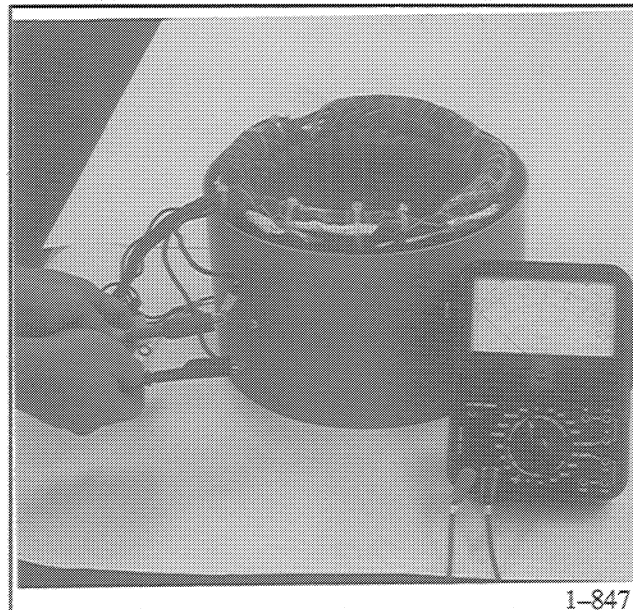

Figure 7-7. Stator Resistance Check
1. To check stator continuity, set ohmmeter on R x 1 scale. Contact the red and black meter leads; adjust ohmmeter to zero ohms. Check stator continuity by connecting meter leads to stator leads as shown in Figure 7-7.